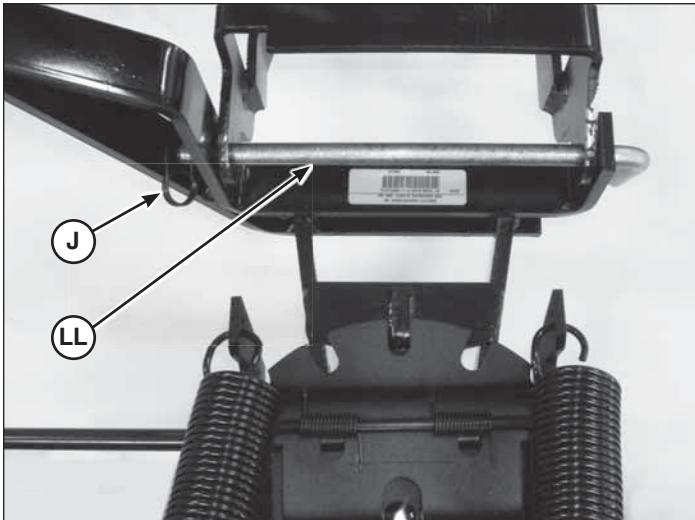

Figure 15
4. Secure the pivot and blade assembly to the front set of holes in the sub-frame hitch and secure using the large hitch rod (LL, Figure 15) and safety clip (J).